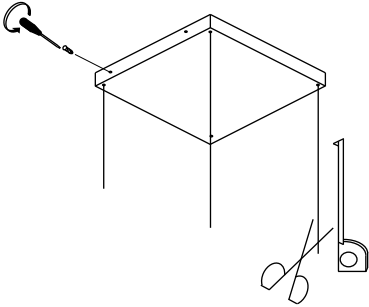

Fig 8
5. Fix the cover to the ceiling bracket and cut string to required length (Fig 8).